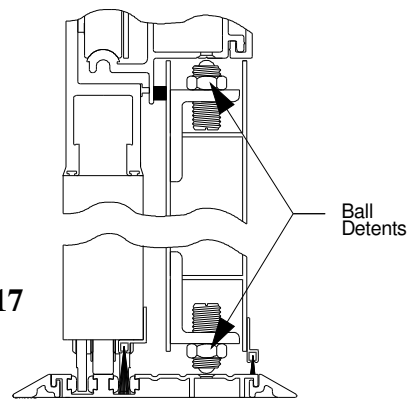

Figure 17
15. With a 15/16 inch open end wrench, adjust both ball detents so they lightly contact header and track surfaces. Additional travel is available by removing ball detent and using alternate mounting holes (See Figure 17 & 18).